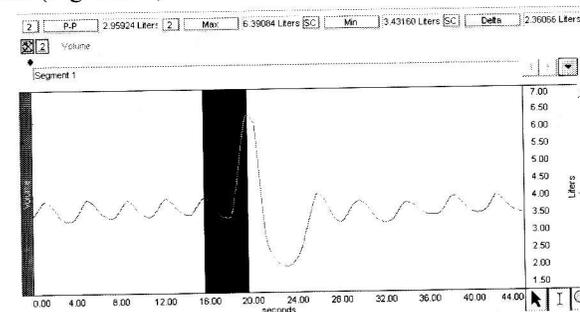

Fig. 12.24 Example of measurements for TLC (Max), RV (Min), and IRV (Delta)
5. Use the I-beam cursor and measurement tools to observe the following volumes and capacities (defined in Fig. 12.24):
The **Delta** measurement can be used to obtain IRV, ERV, and other measurements (Fig. 12.24).